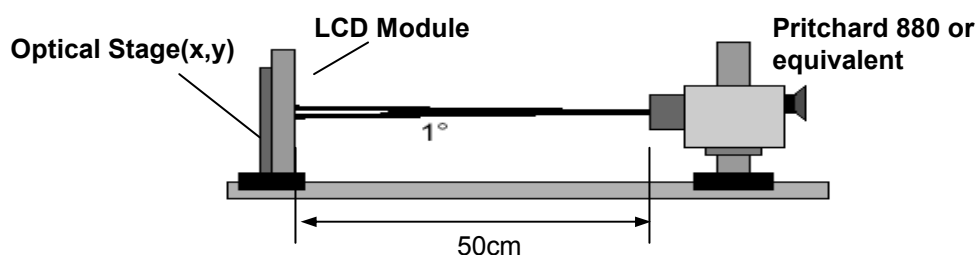

FIG. 6 Optical Characteristic Measurement Equipment and Method
Optical characteristics are determined after the unit has been 'ON' and stable in a dark environment at $25\pm 2^{\circ}\text{C}$. The values are specified at distance 50cm from the LCD surface at a viewing angle of Φ and θ equal to 0° . FIG.6 shows additional information concerning the measurement equipment and method.
2. Surface luminance is determined after the unit has been 'ON' and 1 Hour after lighting the backlight in a dark environment at $25 \pm 2^\circ\text{C}$. Surface luminance is the luminance value at center 1-point across the LCD surface 50cm from the surface with all pixels displaying white. For more information see the FIG. 6.